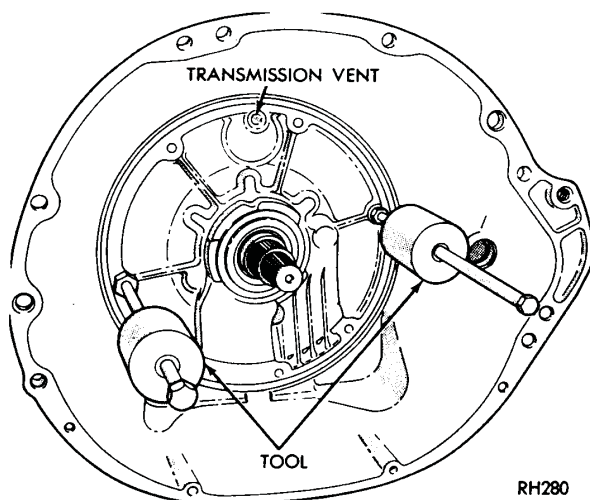

Fig. 7—Remove Oil Pump
(3) Attach Tool C-3752 to pump housing flange, (Fig. 7), in threaded holes in the flange.
(4) Bump outward evenly with the two "knocker weights" to withdraw oil pump and reaction shaft support assembly from the case.